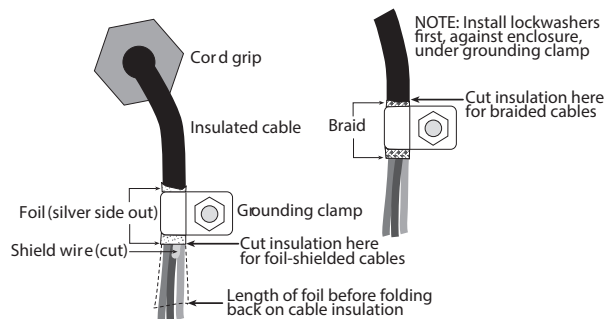

Figure 2-10. Grounding Clamp Attachment for Foil-Shielded and Braided Cabling
- For cables with foil shielding, strip insulation and foil from the cable half an inch (15 mm) past the grounding clamp (see Figure 2-10). Fold the foil shield back on the cable where the cable passes through the clamp. Ensure silver (conductive) side of foil is turned outward for contact with the grounding clamp
- For cables with braided shielding, strip cable insulation and braided shield from a point just past the grounding clamp. Strip another half inch (15 mm) of insulation **only** to expose the braid where the cable passes through the clamp (see Figure 2-10)